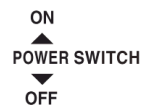

Fig. 7
WARNING! The power switch does not turn off all power supply to the unit. 115VAC power supply is present on control board K1 connector pin #2 (BR) and control board X1 relay (BR) when the power switch is in the "OFF" position. See Fig. 7.